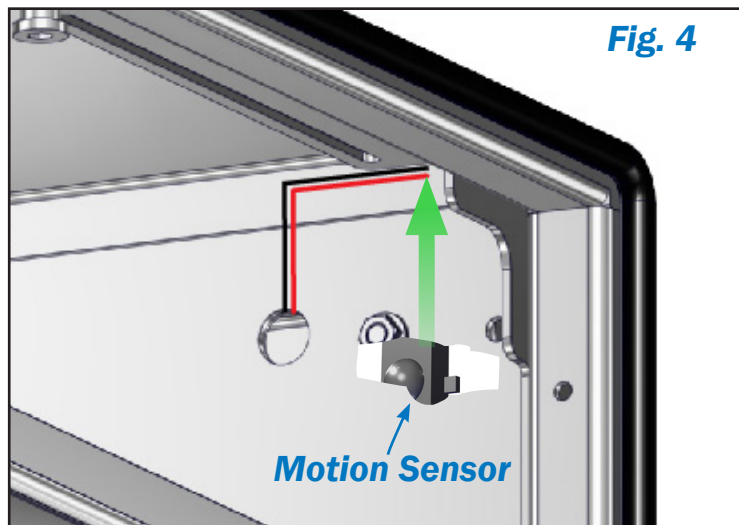

Fig. 4
- 6 Run wiring through Pro Series™ Tool Box routing hole into the air and wiring bracket (Fig. 4)